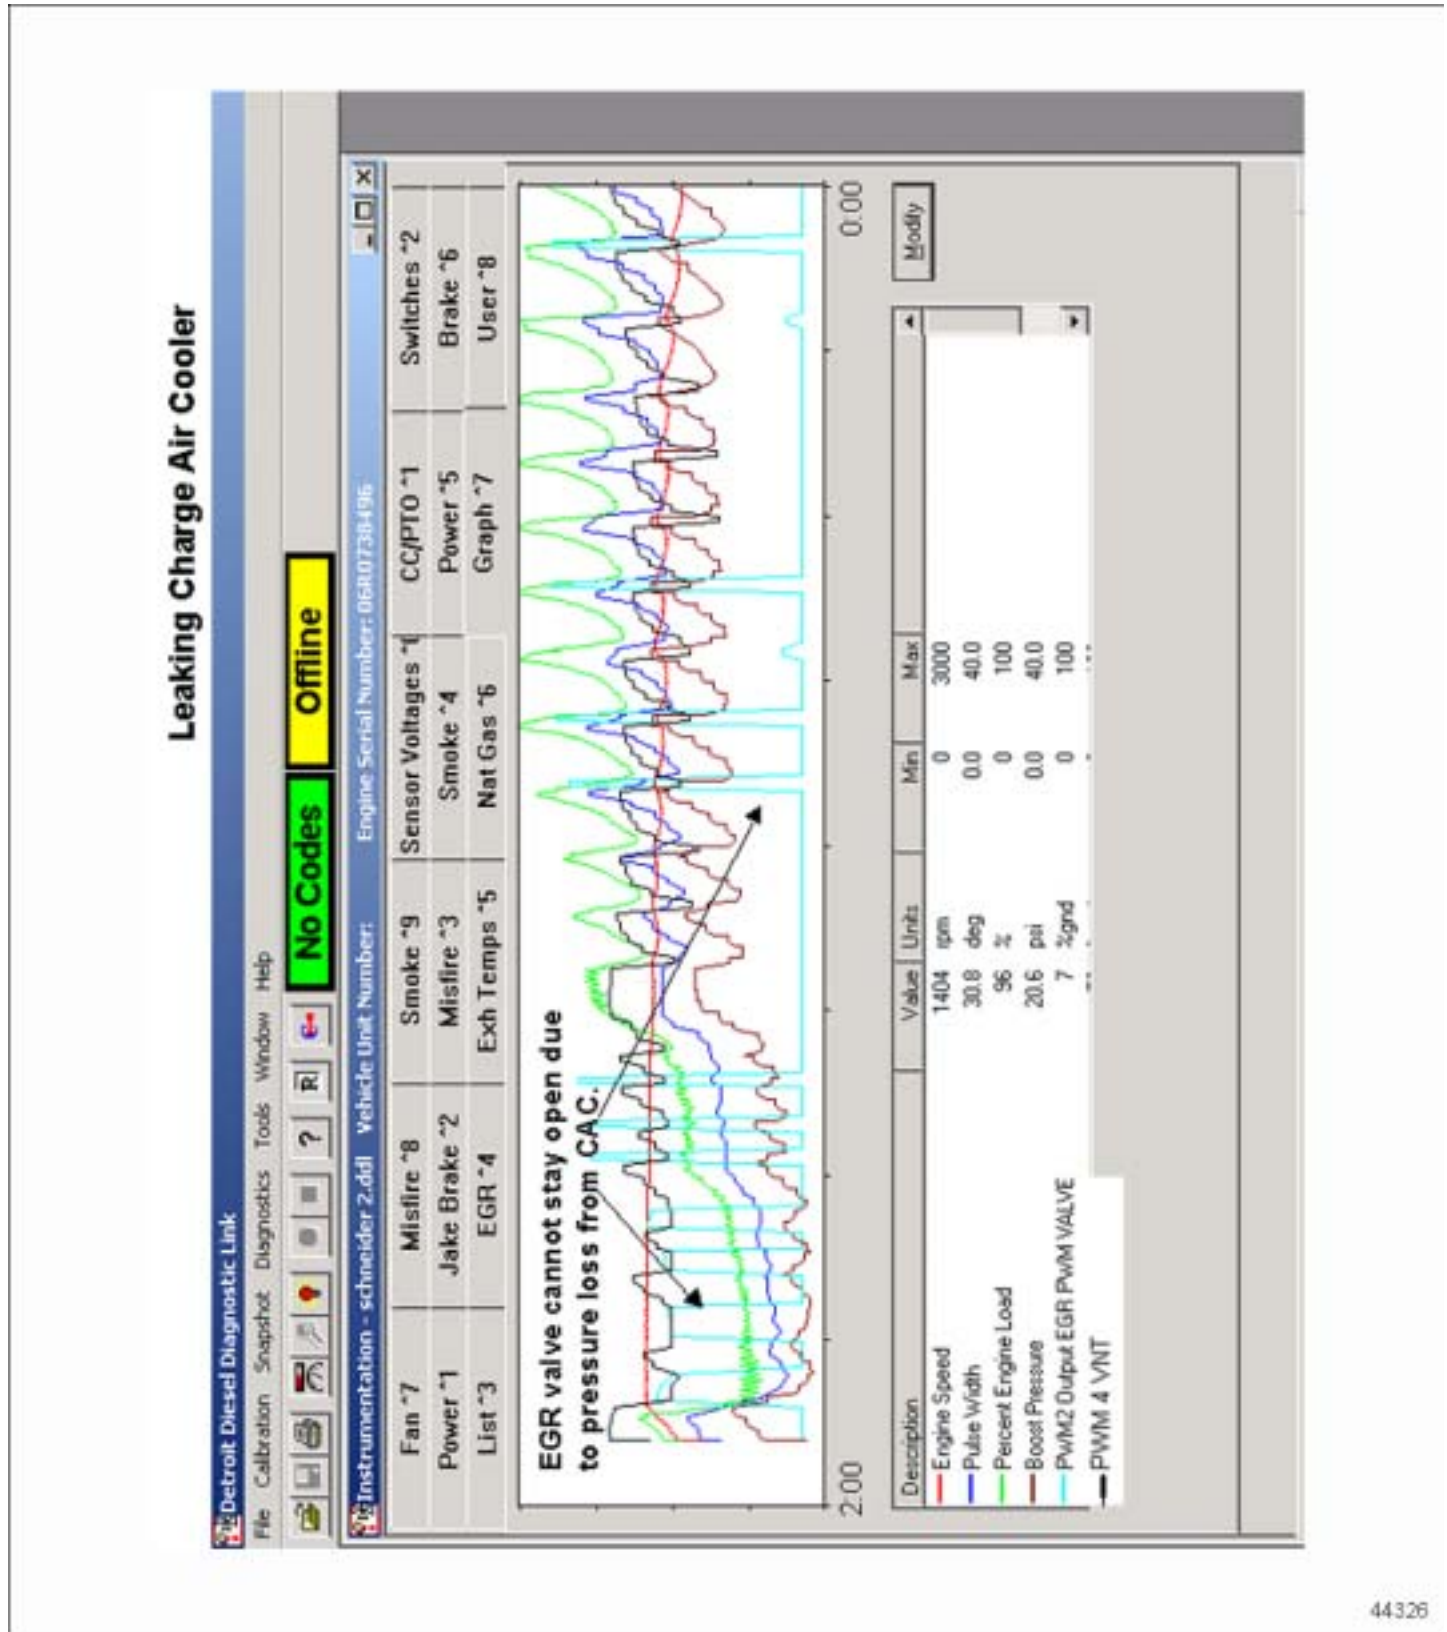

Figure 7-8 Leaking Charge Air Cooler
- ☐ Leaking Charge Air Cooler. See Figure 7-8.